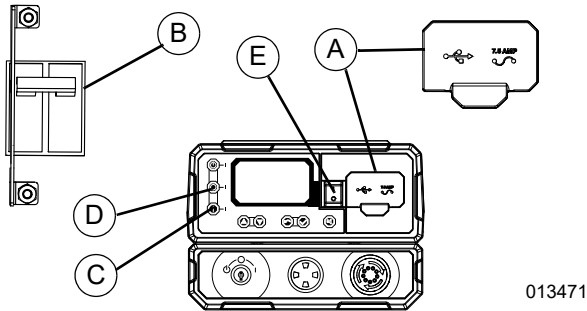

Figure 3-11. Powerzone 410 Control Panel
1. See Figure 3-11. Pull up rubber flap covering fuse holder and verify installation of 7.5 amp fuse (A).
2. Set generator MLCB (generator disconnect) to OFF (OPEN) (B).